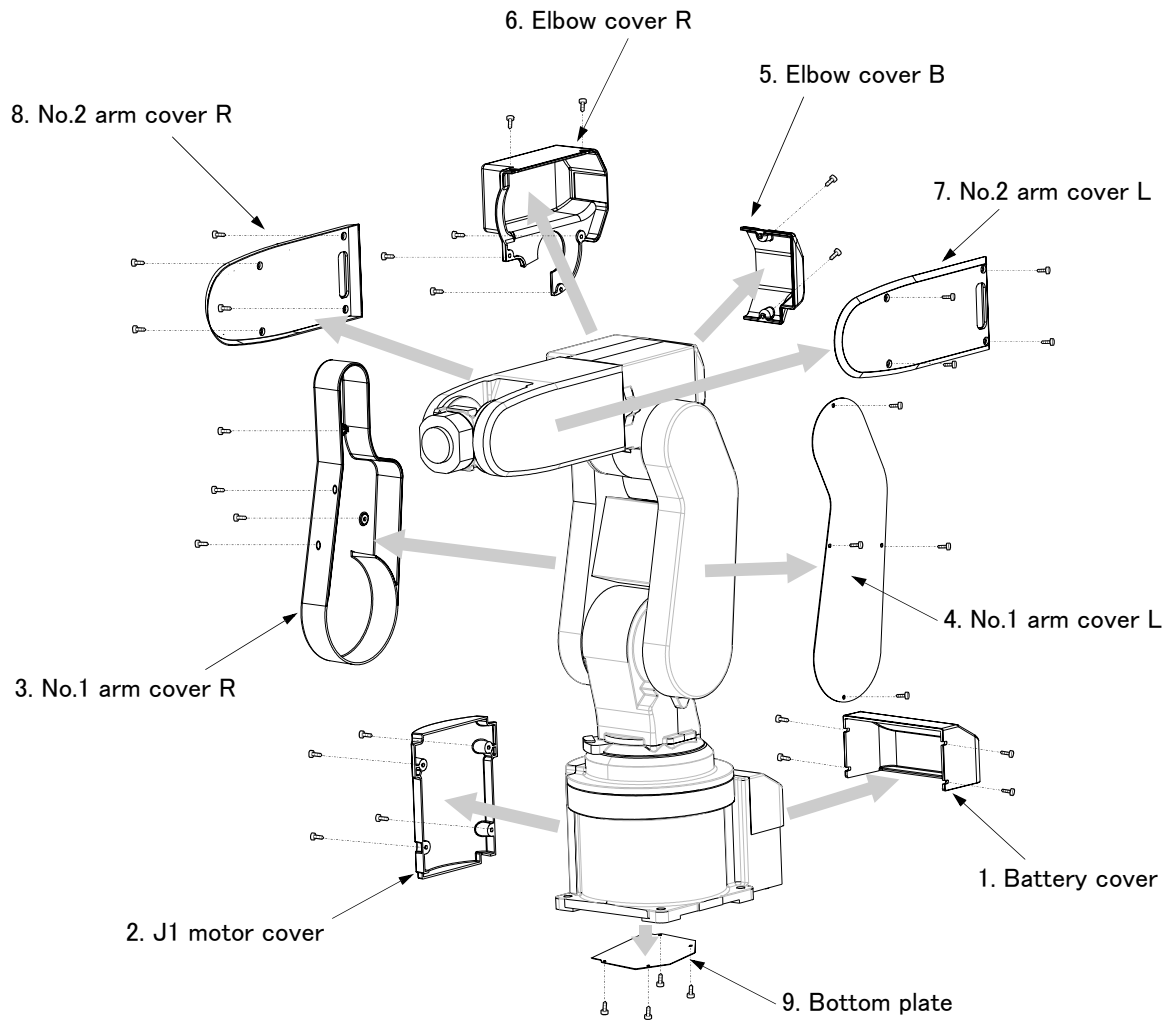

Fig.5-3 : Installing/removing the cover
- (1) Each cover's names and installation screw are shown in Fig. 5-3. Refer to Fig. 5-3 and remove the cover.
- (2) There are some covers that may be difficult to remove due to the robot posture. In this case, change the robot posture with jog operation, and then remove the cover.
- (3) When attaching the cover after maintenance and inspection, use the detaching procedure in reverse.
The part Nos. and symbols in Table 5-3 correspond to Fig. 5-3.